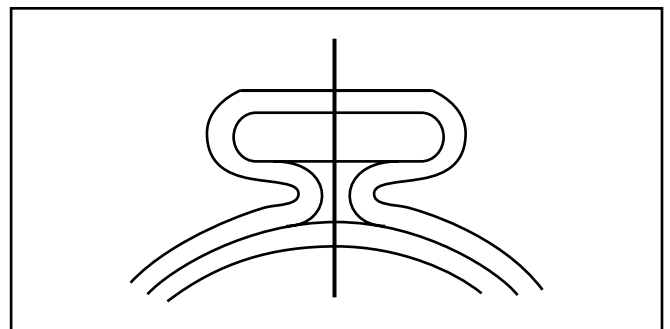

Fig. 5: Full ear closure required
3. IMPORTANT: For proper installation of Oetiker PEX series clamps, full ear closure is required. Visually inspect clamp for correct closed ear form. (Fig. 5)